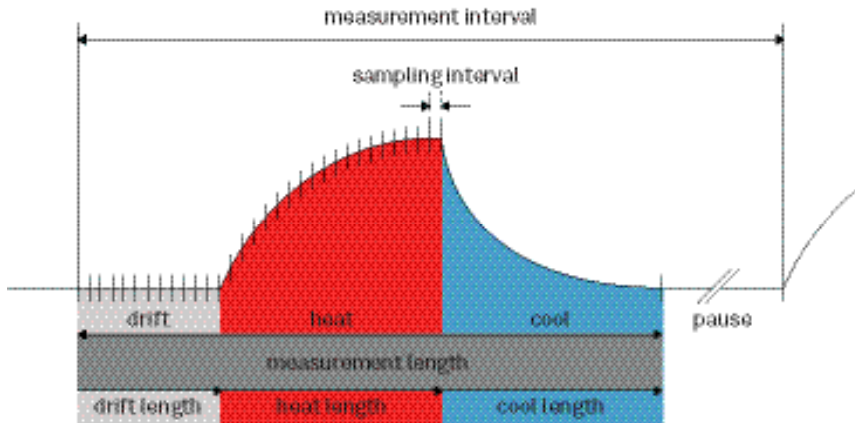

Figure 30 Example measurement cycle
3. Press the Save Profile button to enter a profile name and store it (Figure 30).